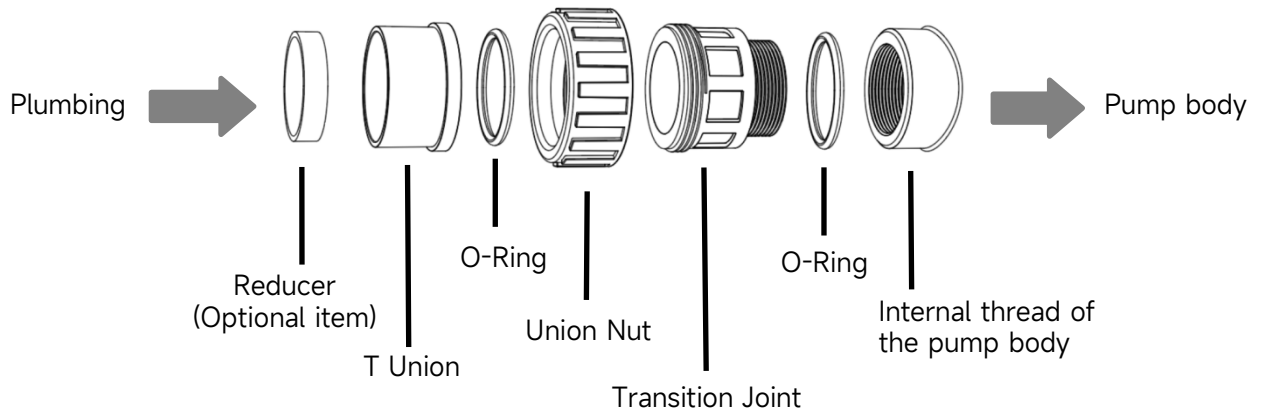

Figure 3 - Union Kit
- 3) Use the UNION KIT supplied by the pump manufacturer (Refer to Figure 3). Do not use other fittings to connect the pump inlet/outlet, in case the fittings are not match and damage the pump body